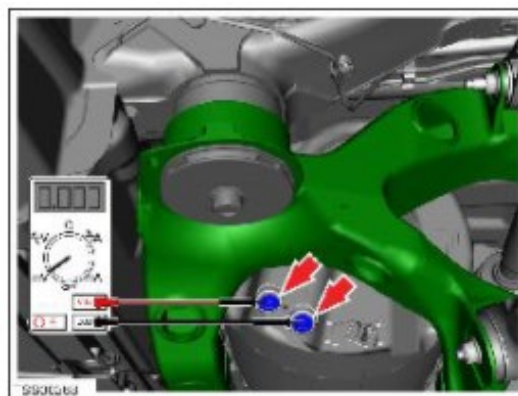

Figure 3
4. Use the drive inverter case as a chassis ground. Measure the following voltages (Figure 3):